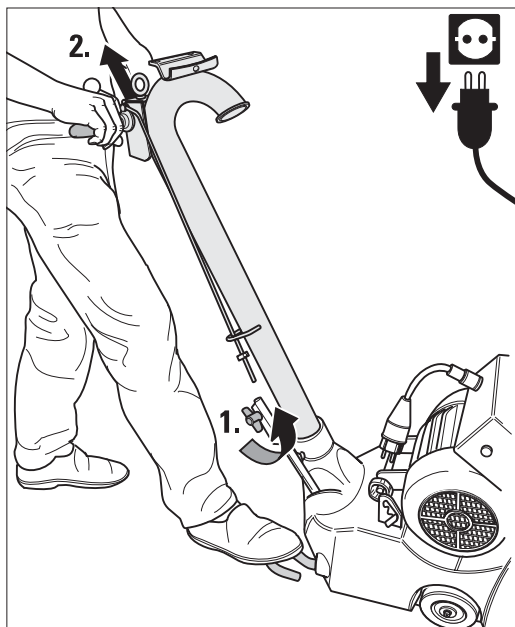

Fig. 17 After opening the wing screws and wing nuts which fasten the rod linkage, the guide tube can be drawn out of the machine housing.
- 2 Open the wing screw and wing nut and pull the guide tube out of the machine housing (Fig. 17).